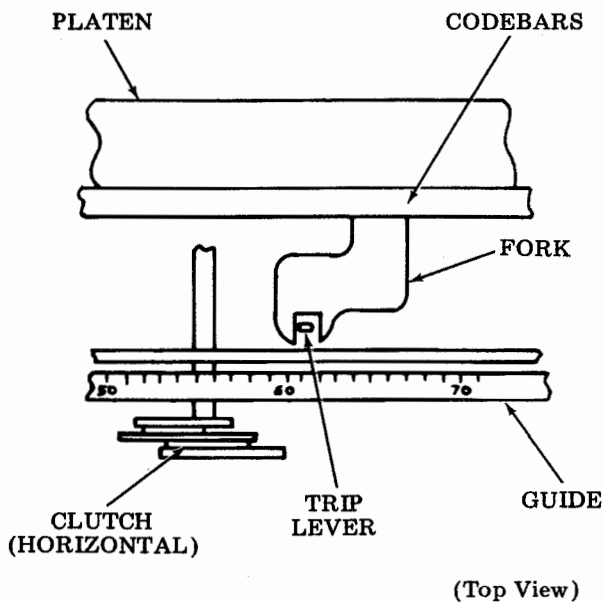

Figure 6 - Codebar Fork and Clutch Trip Lever Alignment
- (2) View the typing unit from the top and check the alignment of the four horizontal positioning clutch trip levers with the codebar forks. The correct alignment is shown in Figure 6. If corrective action is required, lift up the codebar fork and position the Number 4 horizontal trip lever into the fork. Perform the same corrective action for all four forks and trip levers. It may be necessary to loosen front plate mounting screws in order to reposition trip levers. Tighten mounting screws.